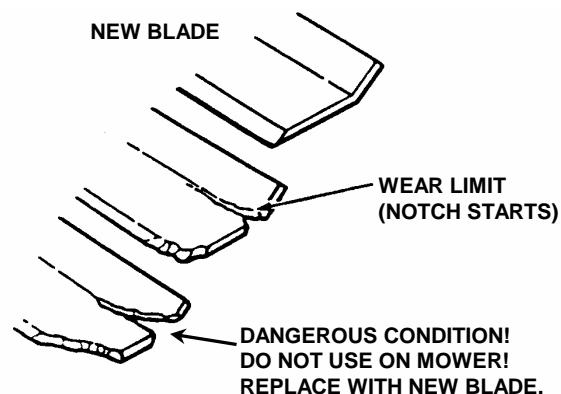

FIGURE 4.13
- Inspect blade frequently for signs of excessive wear or damage. See Figure 4.13.
6. Inspect condition of blade. Refer to Figure 4.13.